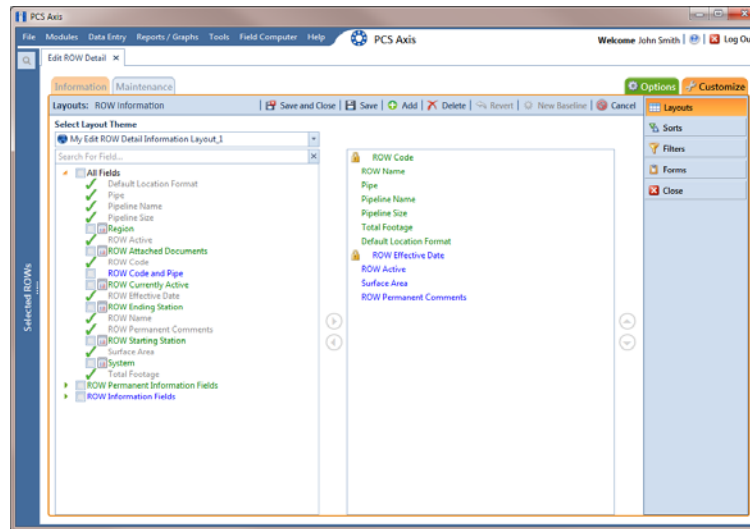

Figure 3-23. Layouts
- 7 Click  **OK** to save changes and return to the *Layouts* page (Figure 3-23).
NOTE: Fields with a lock icon  are required and cannot be removed from the theme, such as  **ROW Code** shown in the previous example (Figure 3-23, page 110).